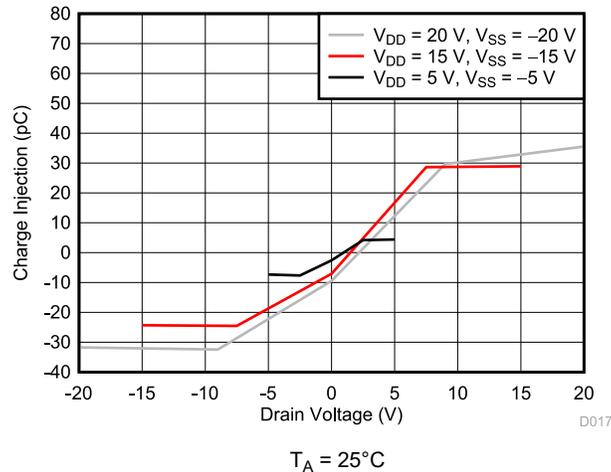

Figure 9-3. Charge Injection vs Drain Voltage
The low on and off leakage currents of MUX708-Q1 and ultra-low charge injection performance make this device ideal for implementing high precision industrial systems. The MUX708-Q1 contains specialized architecture to reduce charge injection on the drain side (D) (see Section 8.3.7 for more details). Figure 9-3 shows the plot for the charge injection versus source voltage for the MUX708-Q1.